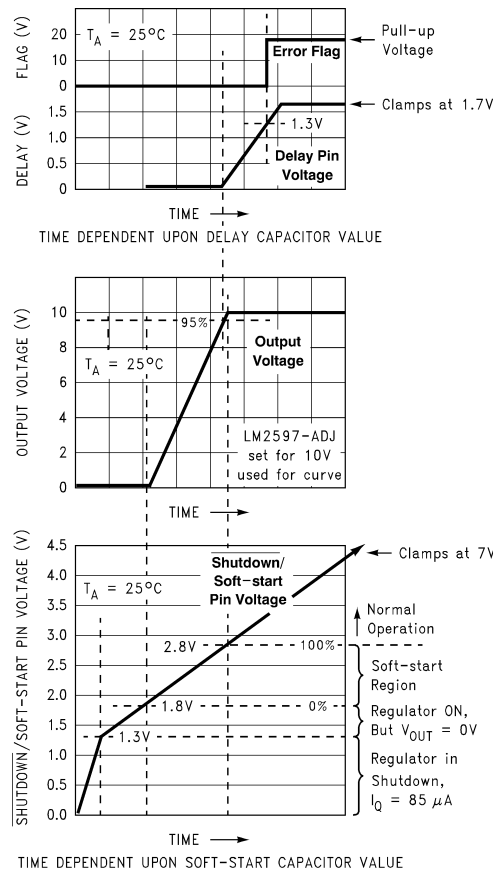
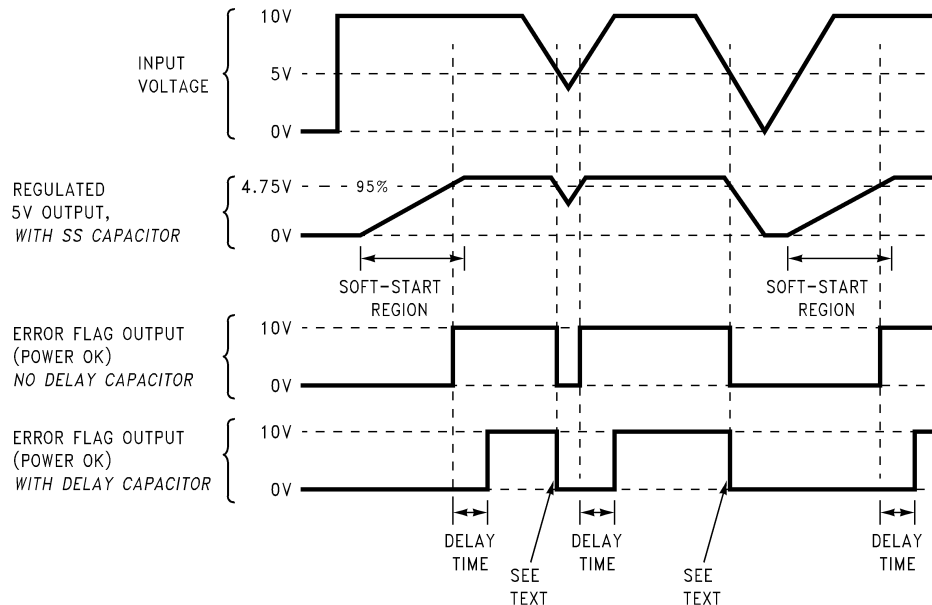

Figure 31. Soft-Start, Delay, Error, and Output
Figure 33. Timing Diagram for 5-V Output
A capacitor on this pin provides the regulator with a soft-start feature (slow start-up). When the DC input voltage is first applied to the regulator, or when the Shutdown/Soft-start pin is allowed to go high, a constant current (approximately 5 μ A begins charging this capacitor). As the capacitor voltage rises, the regulator goes through four operating regions (see the bottom curve in Figure 31).
3. Soft-start Region – When the $\overline{SD/SS}$ pin voltage is between 1.8 V and 2.8 V (at 25°C), the regulator is in a soft-start condition. The switch (Pin 8) duty cycle initially starts out very low, with narrow pulses and gradually get wider as the capacitor $\overline{SD/SS}$ pin ramps up towards 2.8 V. As the duty cycle increases, the output voltage also increases at a controlled ramp up. See the center curve in Figure 31. The input supply current requirement also starts out at a low level for the narrow pulses and ramp up in a controlled manner. This is a very useful feature in some switcher topologies that require large start-up currents (such as the inverting configuration) which can load down the input power supply.
The lower curve shown in Figure 31 shows the soft-start region from 0% to 100%. This is not the duty cycle percentage, but the output voltage percentage. Also, the soft-start voltage range has a negative temperature coefficient associated with it. See the soft-start curve in Electrical Characteristics.
Provides delay for the error flag output. See the upper curve in Figure 31, and also refer to timing diagrams in Figure 33. A capacitor on this pin provides a time delay between the time the regulated output voltage (when it is increasing in value) reaches 95% of the nominal output voltage, and the time the error flag output goes high. A $3\text{-}\mu\text{A}$ constant current from the delay pin charges the delay capacitor resulting in a voltage ramp. When this voltage reaches a threshold of approximately 1.3 V, the open collector error flag output (or power OK) goes high. This signal can be used to indicate that the regulated output has reached the correct voltage and has stabilized.